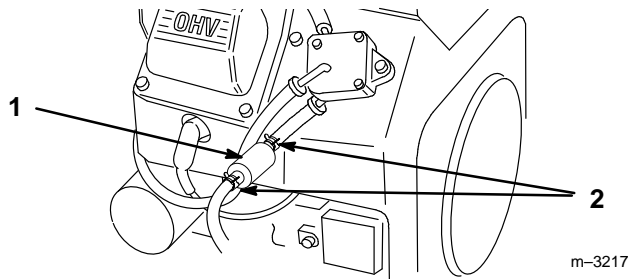

Figure 27
4. Squeeze the ends of the hose clamps together and slide them away from the filter (Fig. 27).